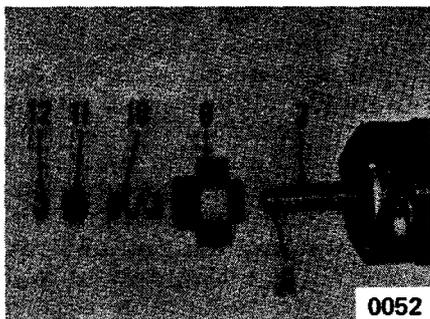
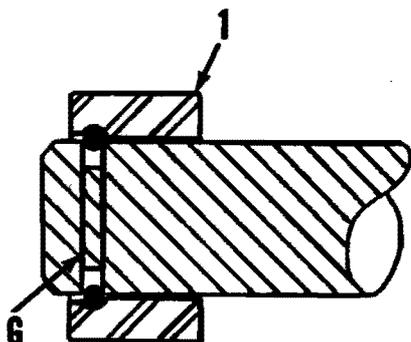

FIG. 37
FIG. 38
To disassemble the drive end, use a suitable press and mandrel, and push down on locking collar (11-Fig. 37) until snap ring (12) is exposed. Spread and remove snap ring and remove drive components. Drive (8) contains an over-running clutch and is renewable only as an assembly. When assembling drive end, suitable support the gear and pry locking collar (1) back over ring (2) until it snaps in place. Snap ring fits in groove (A) in shaft and shallow groove in locking collar as shown in cross sectional view (Fig. 38)